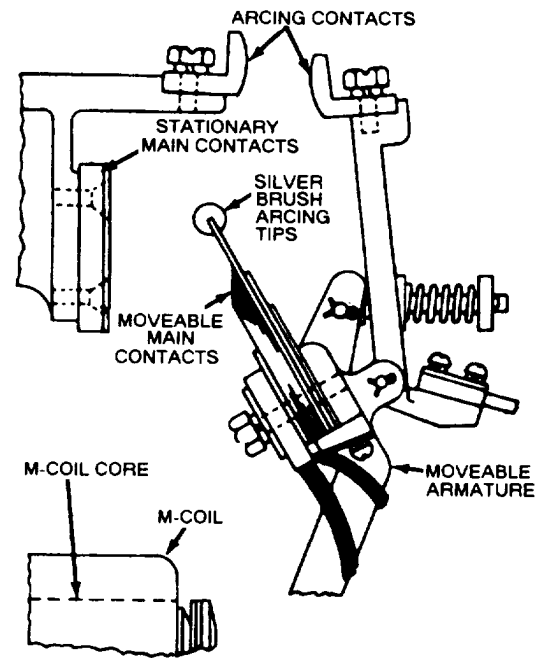

Figure 1-19.-Detailed view of arcing contacts.
The shunt contactor shown in figure 1-19 uses a second set of contacts (1) to reduce the amount of arcing across the main contacts (5 and 6) when closing. The numbers that are in parentheses are indicated on the figure.